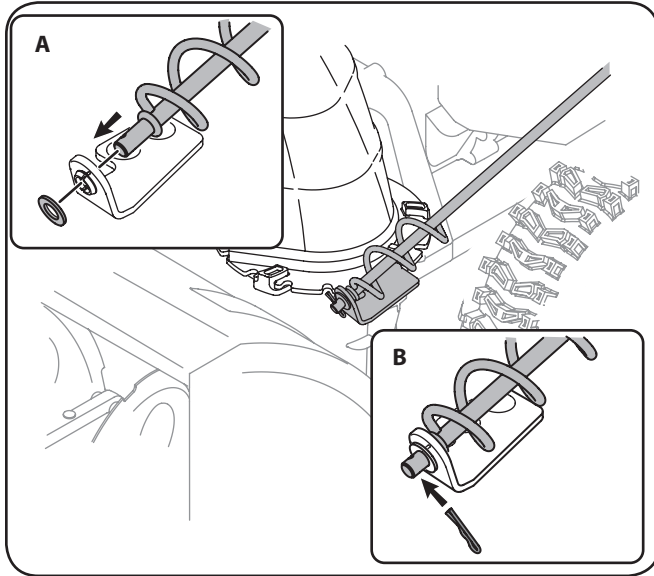

Figure 3-11
1. Remove the plastic cap (if present), flat washer and hairpin clip from the end of the chute directional control. See Figure 3-11.